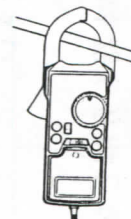

Fig. 1
- Note: Clamp around only one conductor of the circuit to be measured. (See Fig. 1)